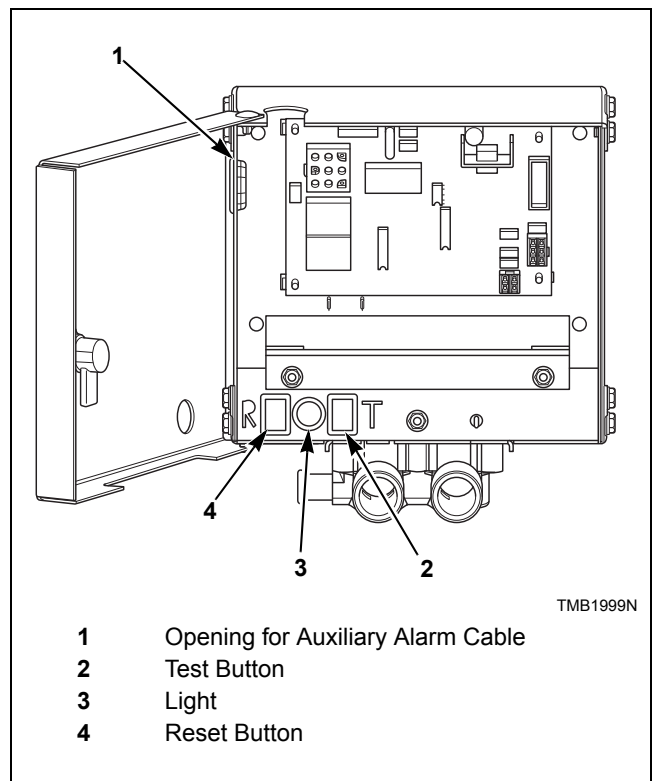
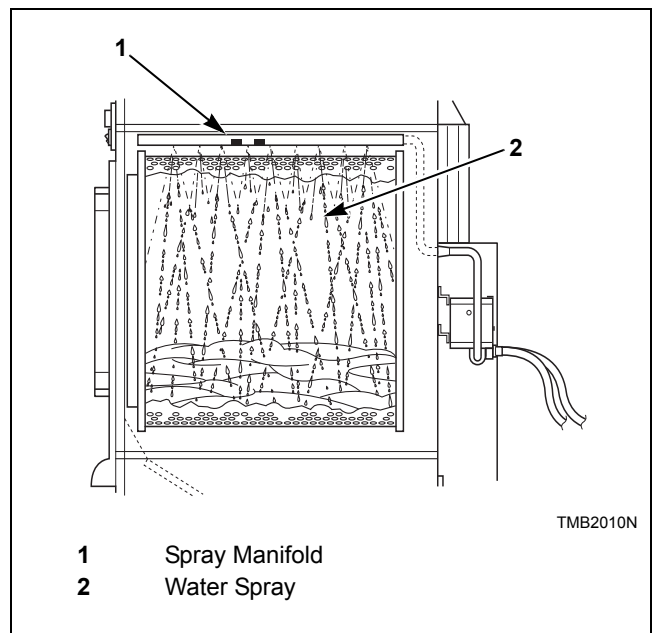

Figure 53
Figure 54
6. Press and hold the test button, verify the light is on, this should take approximately five seconds. Refer to *Figure 53*. After a one-second pause water should begin to spray into the cylinder.
7. After 15 seconds of water spray, press and hold the reset button until water spray is off and light is off. This should take approximately one second. Refer to *Figure 53* and *Figure 54*.